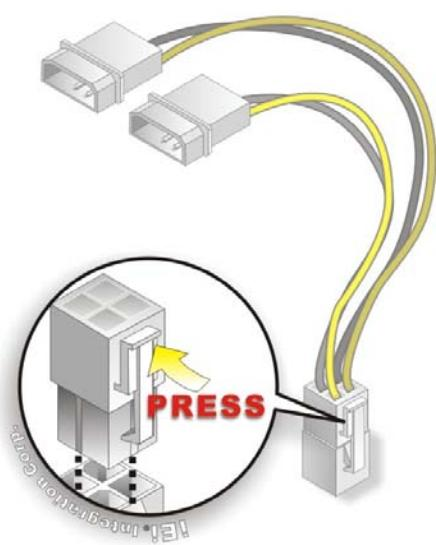

Figure 4-10: Power Cable to Motherboard Connection
Step 2: Connect the Power Cable to the Motherboard. Connect the 4-pin (2x2) Molex type power cable connector to the +12V power connector on the motherboard. See Figure 4-10.